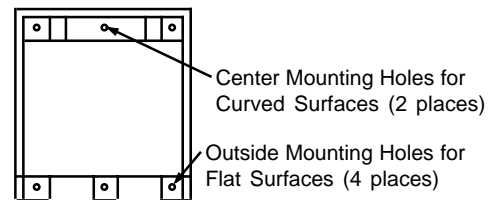

Figure 3-11. Junction Box Mounting
2. See Figure 3-11. Hold the junction box at the previously marked mounting location. Mark the mounting holes. Mark the four outside mounting holes if mounting on a flat surface, such as an I-Beam or rectangular tube. Mark the two center mounting holes if mounting on a curved surface, such as a pipe or round tube.